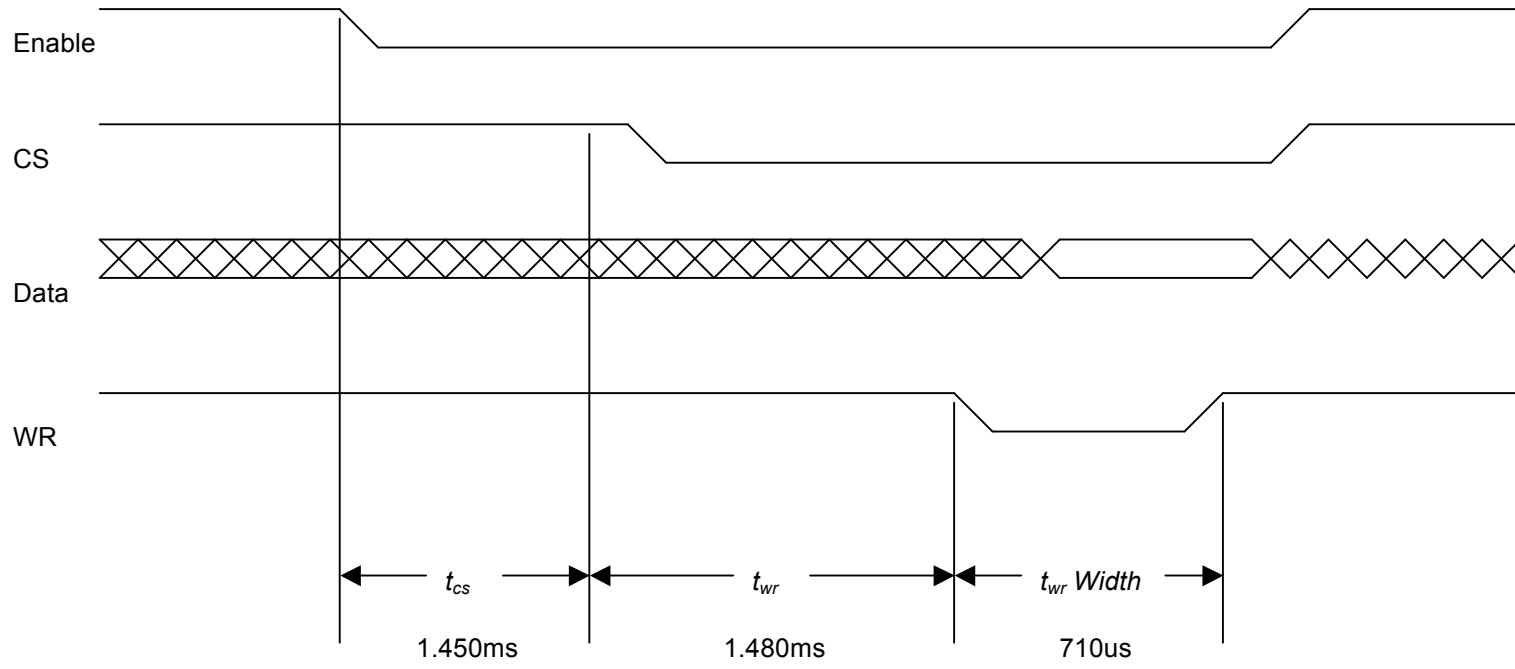

Figure 1: Slow Device Write Cycle
The Altera has as part of the logic circuit burned into the MAX chip a device that can accept a four-bit data value from an external source and display it on the MAX\_DIGIT\_1 7-segment display. The write cycle for this device is ridiculously slow and is shown in Figure 1. Create a program that will write a four-bit data value into this “slow device”. To help in generating the correct timing sequence the external device provides two active low error signals, “Too Fast” and “Too Slow”. The “Too Fast” signal is driven low whenever the expected signal occurs before the required setup time and the “Too Slow” signal is driven low whenever the expected signal occurs after the required setup time.
4. Once you are satisfied with the timing use the logic analyzer to measure your final waveforms. Compare your measurements against the specifications listed in Figure 1.